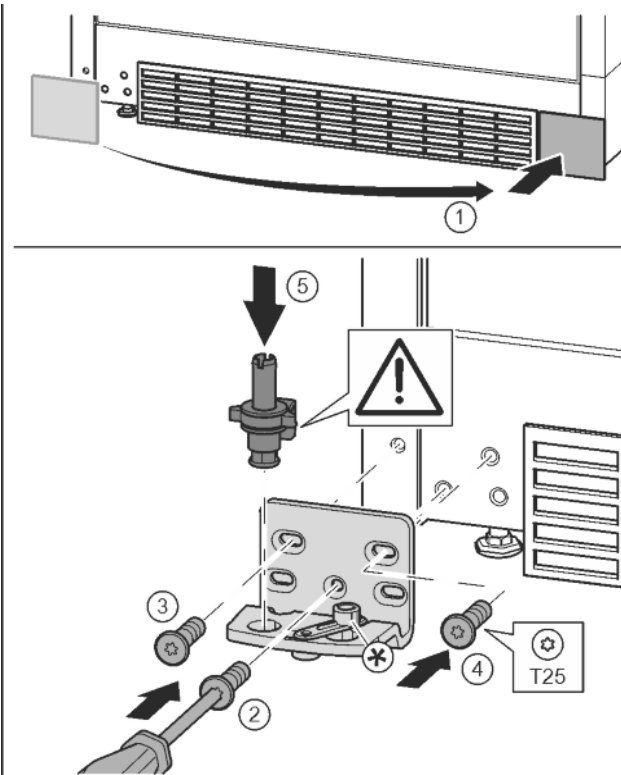

Fig. 16
- ▶ Remove the cover and fix it on the other side. Fig. 16 (1)
- ▶ Place the bearing bracket on the other side and screw in with the aid of a T25 screwdriver. Start with screw 2 at the bottom in the middle. Fig. 16 (2)
- ▶ Screw in screws 3 and 4. Fig. 16 (3, 4)
- ▶ Insert the bearing pin completely. Make sure that the catch mechanism is pointing to the rear. Fig. 16 (5)